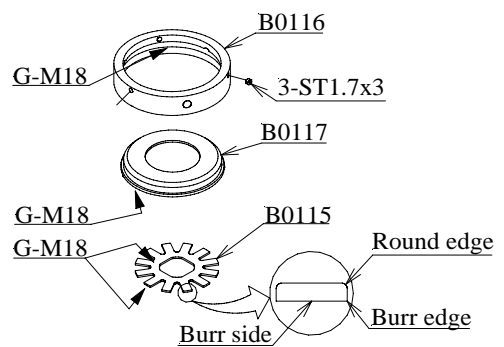

Fig.7-1-5
- 8) Apply G-M18 to the UD Friction Disk (B0115) both sides and place B0115 on A-B0112 so that the burr side of B0115 become downward. (Fig.7-1-5)